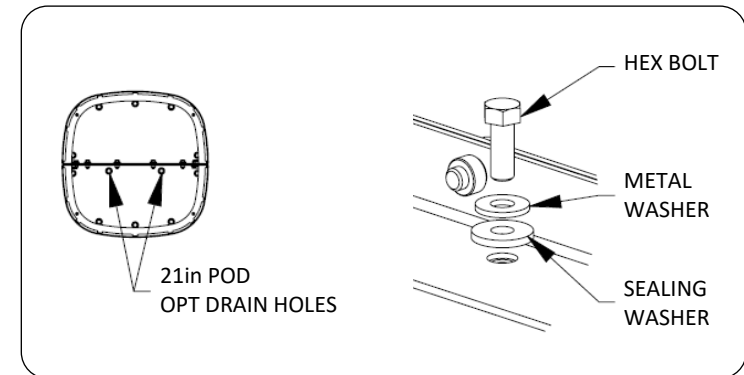

FIG 2 – DRAIN HOLE LOCATIONS, PLAN VIEW
1. Specific hardware may be removed on bottom of planter to allow for drainage. Refer to FIG 2 for locations. Do not remove any other hardware on planter. Using a 9/16" box wrench or socket wrench, remove hex bolt, metal washer and sealing washer before filling planter. Drain hole will be a 3/8-16 threaded hole.